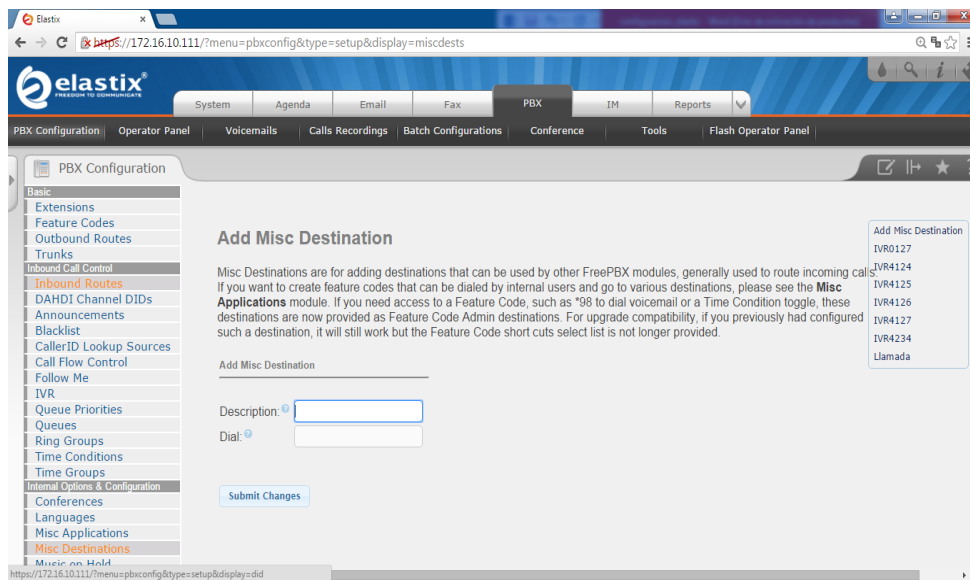

Figura 3.23 PBX configuration, Misc Destinations.
1. Configurar Misc Destinations ver Figura 3.23.